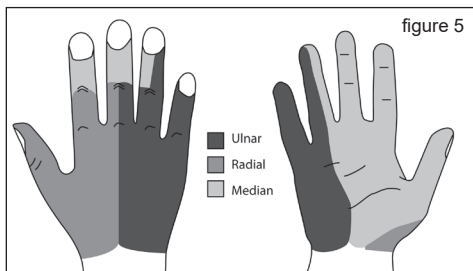

figure 5
**For the hand,** test the palmar surface of the index finger and thumb for median nerve function; test the little finger and hypothemar eminence for ulnar nerve function; test the dorsum of the hand for radial nerve function (fig. 5).